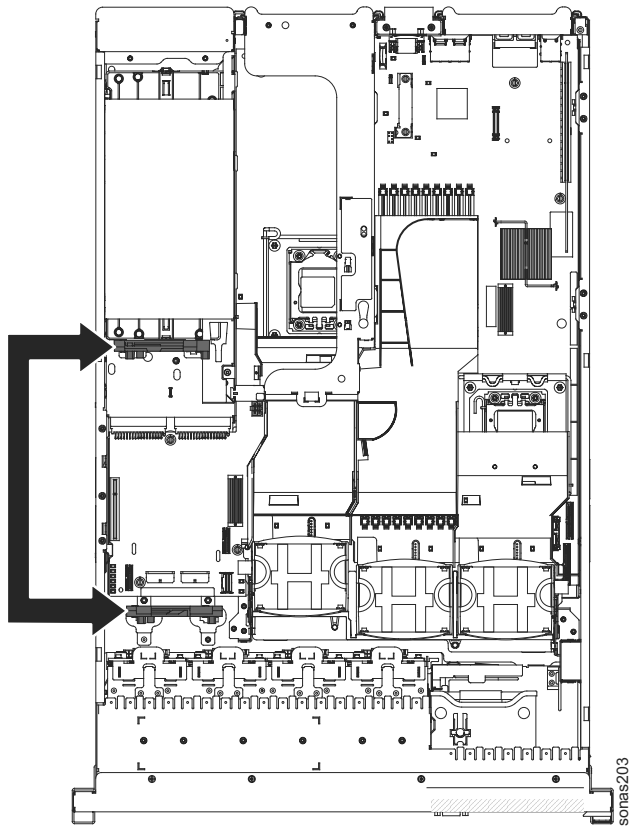

Figure 23. Controller retention brackets on 16-drive-capable server model
- a. If you are replacing a ServeRAID-BR10il v2 SAS/SATA controller with a ServeRAID-M5015/M5014 SAS/SATA controller, you must swap the controller retention brackets to fit the new SAS controller. See Figure 23 on page 107.